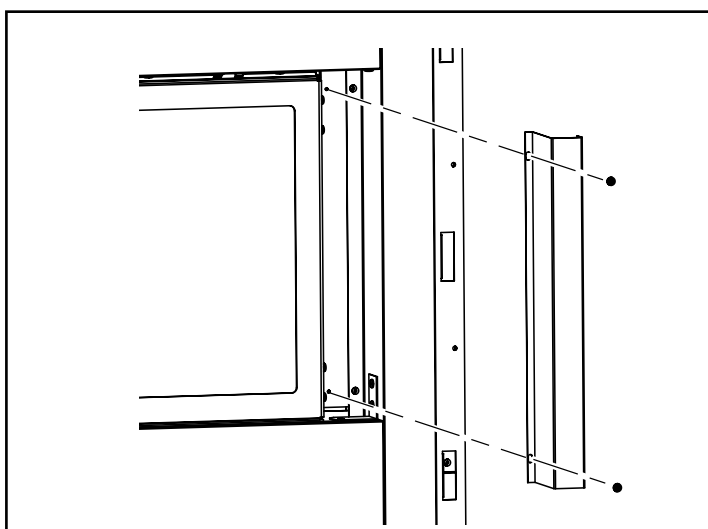

Figure 42 - Installing Side Face Filler for See-Thru Applications
1. Screw side face filler into firebox side baffle using 2 screws on both the left and right side as shown in **Figure 42**.